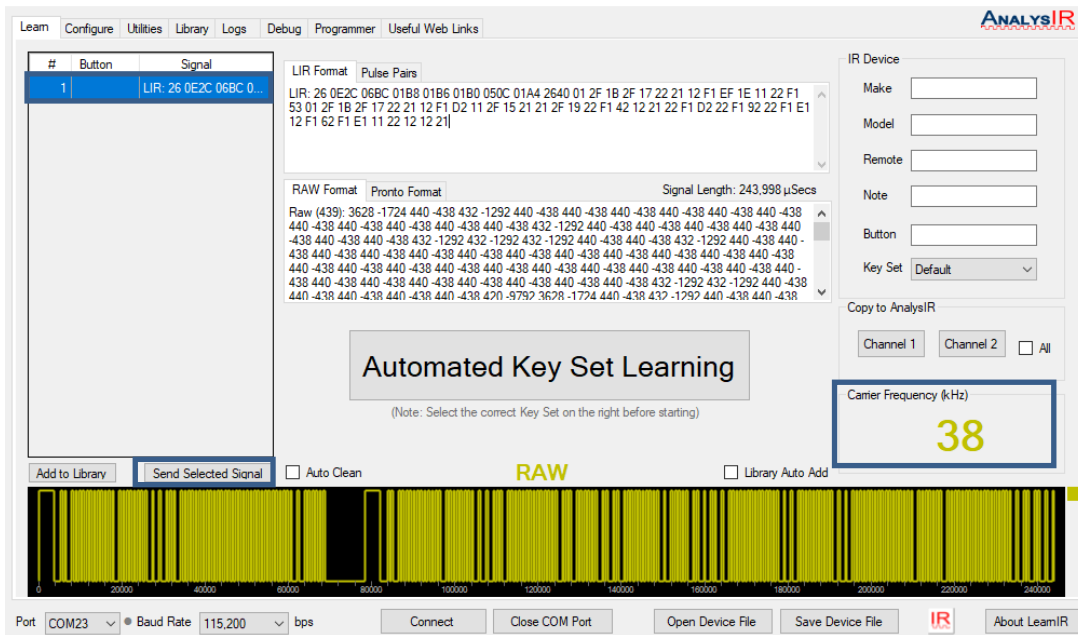

Figure 8 – Automatic Protocol Decode
9. Note the Carrier Frequency displayed on the bottom right side of the Figure 8.